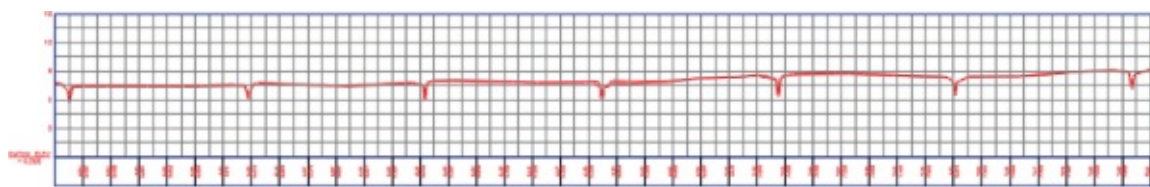

Figure 7.10 The complete profile view for ROAD A
19. Pick a point on the screen somewhere to the right of the site to draw the profile view, as shown in Figure 7.10.